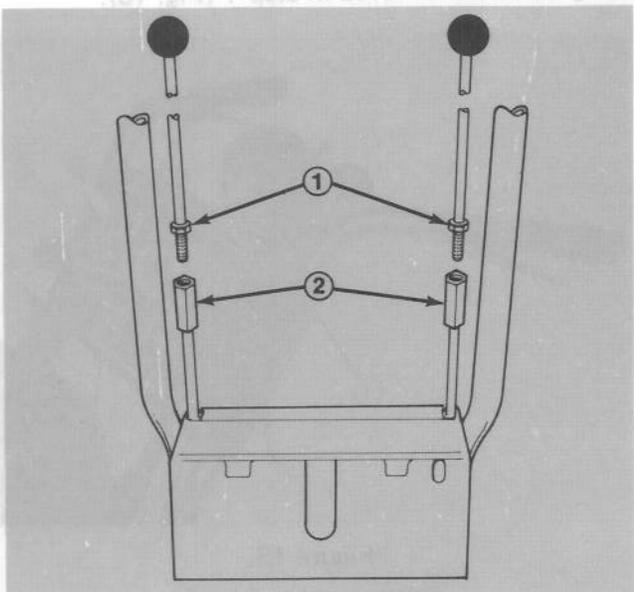

Figure 6
2. Thread jam nuts (Fig. 6) completely onto wheel clutch rods. Screw rods fully into couplings (Fig. 6) until top rods contact bottom rods within the couplings. Tighten jam nuts against top of couplings.